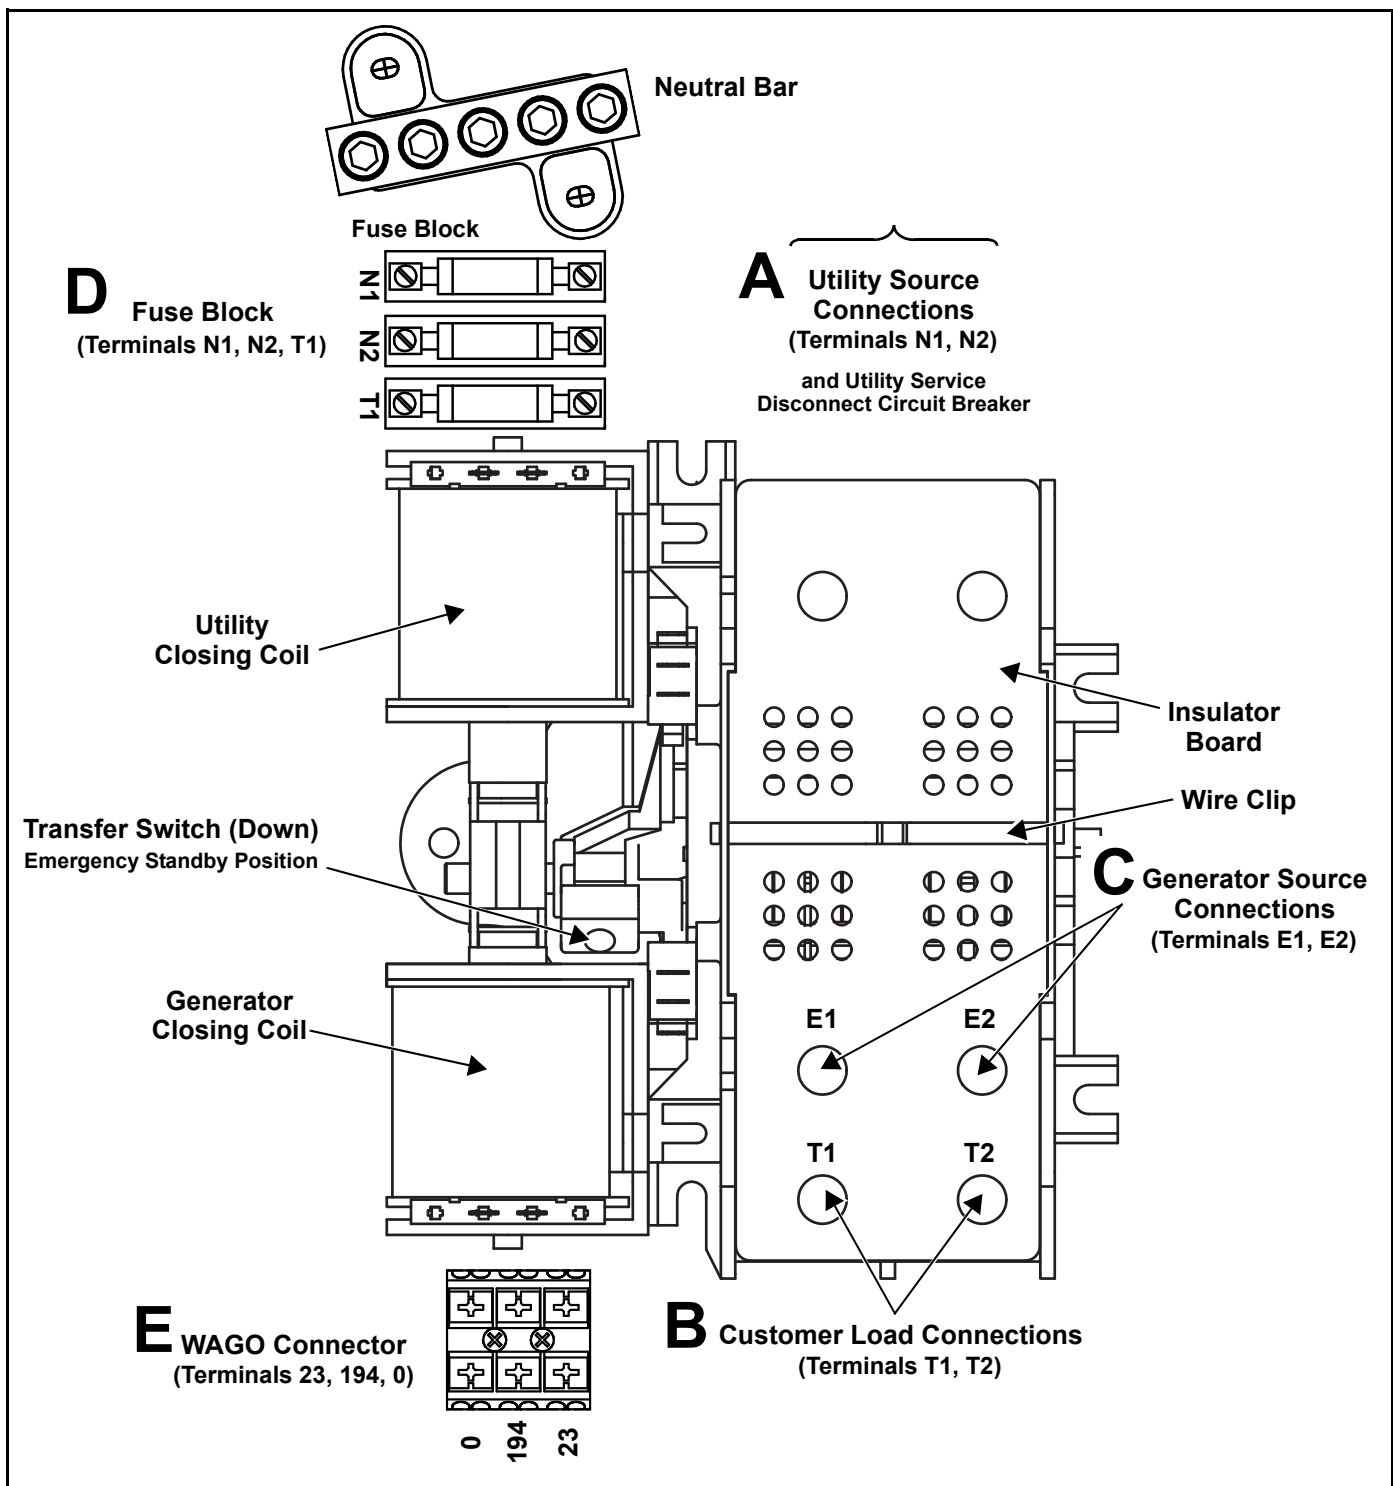

Figure 3-7. Automatic Transfer Switch (RTSI)
- 1. Remove wire clip to release insulator board over customer load and utility source lugs. See Figure 3-7.
- 2. Back out terminal screws from customer load lugs (T1, T2). See B of Figure 3-7.
- 1. Back out terminal screws from generator source lugs (E1, E2). See C of Figure 3-7.
2. Install wires to appropriate terminals using either Phillips screws or spade contacts. See D of Figure 3-7.
2. Route wires to WAGO connector. See E of Figure 3-7.